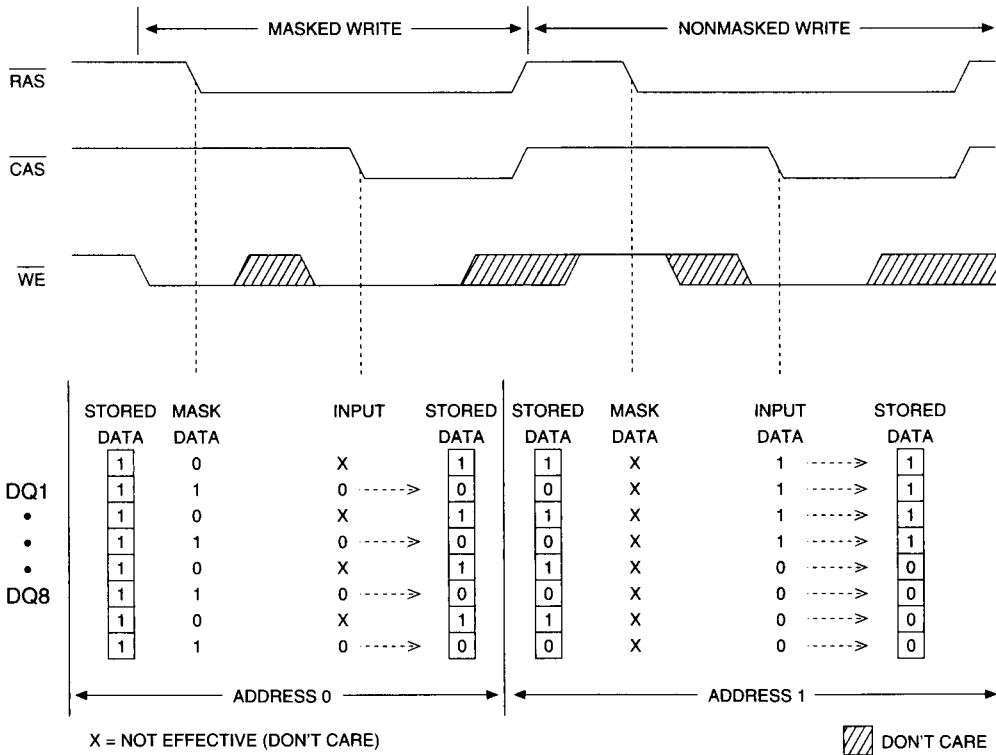

Figure 1
Figure 1 illustrates the MT4C2M8A2 MASKED WRITE operation (Note:  $\overline{RAS}$  or  $\overline{CAS}$  time refers to the time at which  $\overline{RAS}$  or  $\overline{CAS}$  transition from HIGH to LOW).
**NOTE:** 1. Data-in will be dependent on the mask provided (MT4C2M8A2 only). Refer to Figure 1.